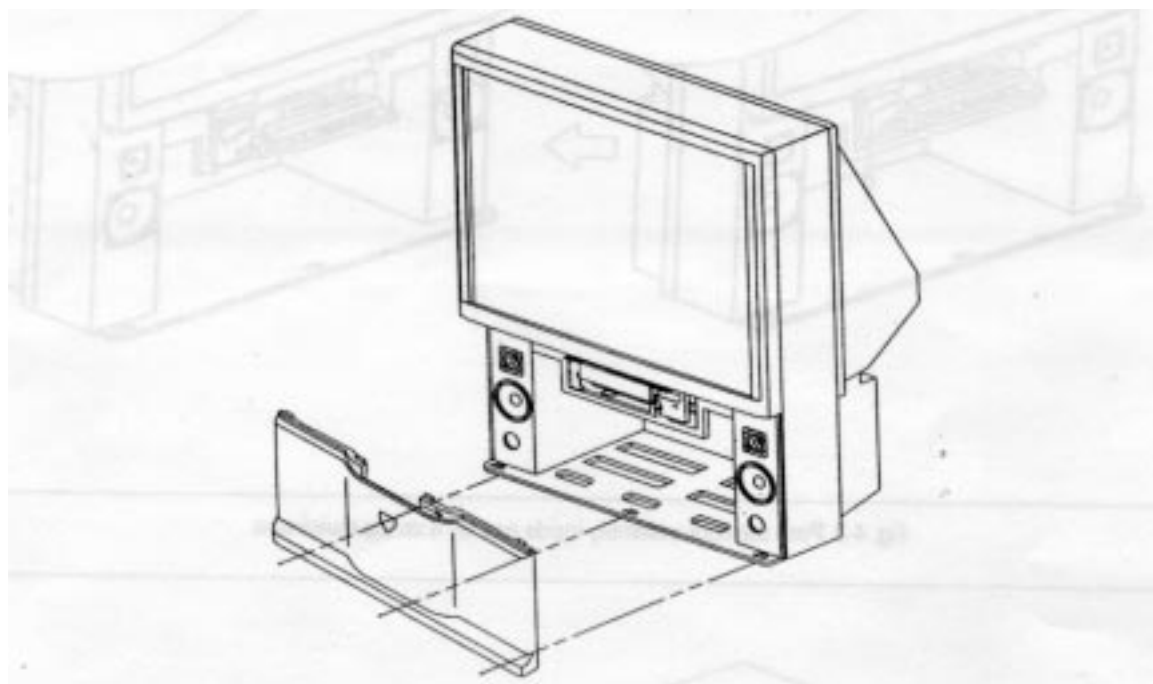

Fig. 4-1 Remove 3 screws located on the bottom of the cover grill. Pull the grill forward to remove it from the mainframe.
1. Figures 4-1 through 4-6 show the disassembly steps.